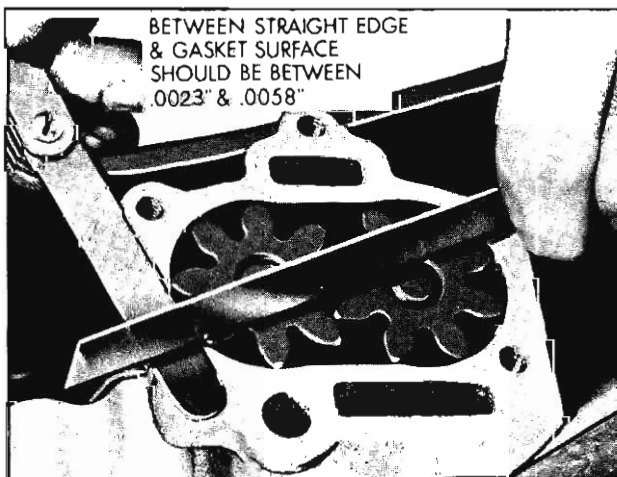

Fig. 3-124 Checking End Clearance
3. Place a straight edge over the gears and measure the clearance between the straight edge and the gasket surface. Clearance should be between .0023" and .0058". If clearance is less than .0023" check timing chain cover gear pocket for evidence of wear. (Fig. 3-124)